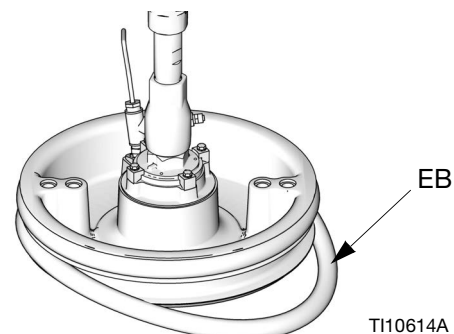

FIG. 20
1. Using a wooden or plastic tool to prevent damage to the wiper (EB), clean all material from seal grooves.
2. *Working from the bottom*, angle one wiper (EB) over back of platen. See FIG. 20.
3. Insert wiper (EB) in top groove and run front of wiper into groove.
4. Insert second wiper (EB) in lower groove and run front of wiper into groove.